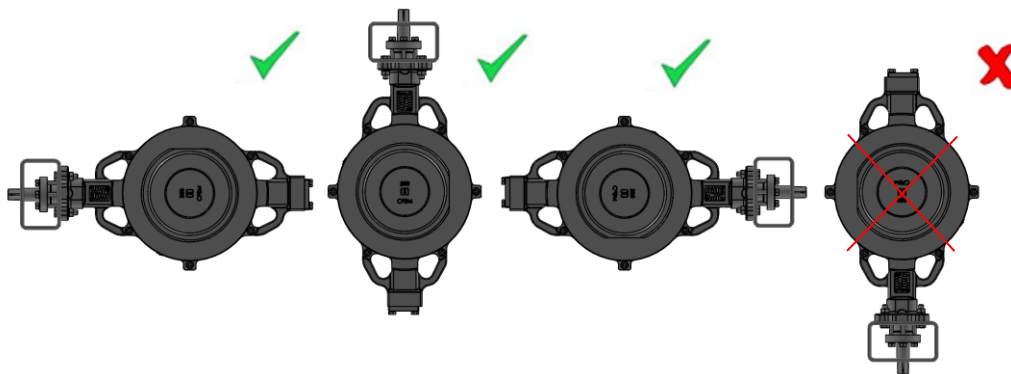

Fig. 6: Recommended positions of the valves when installed in the pipe
- In general, it is recommended to install the valve in a vertical position within the piping system. However, there are applications where the valve is installed in a horizontal position (Tab. 5). Recommended positions, see Fig. 6.